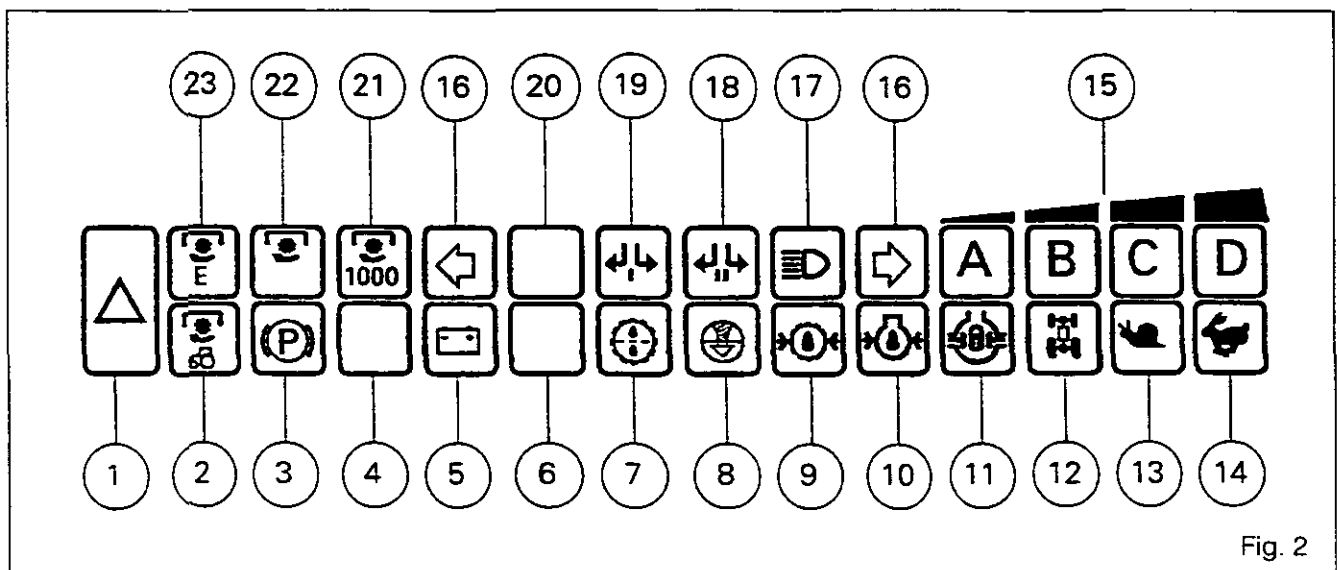

Fig. 2
6. Warning lights panel (see detail Fig. 2)
B . Warning lights panel (Fig. 2)